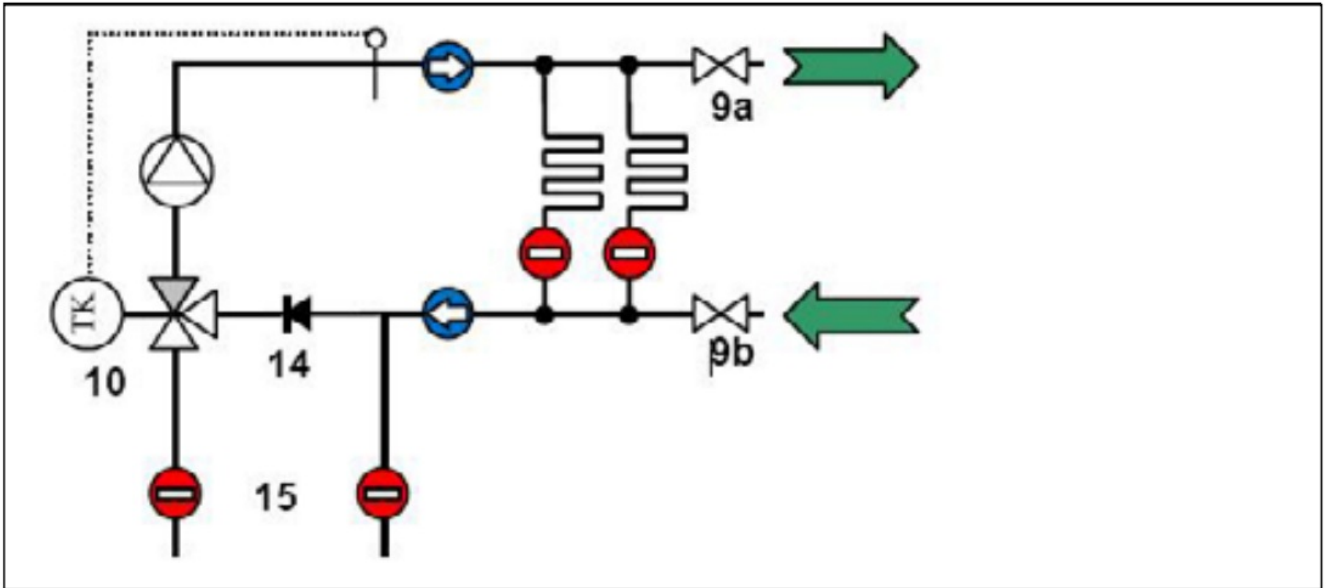

Fig. 8-3
5. connect the filling hose to the fill and drain valve on the return (9b, Fig. 8-3) and the draining hose to the fill and drain valve on the supply (9a, Fig. 8-3).